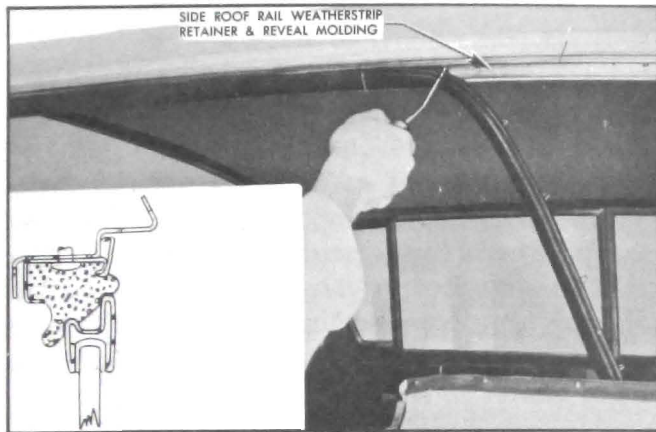

Figure 13-197—Side Roof Rail Weatherstrip
2. Position weatherstrip to retainer at side roof rail so that reinforced section (approximately ten inches long) is over front edge of the rear door window upper frame. Install weatherstrip clips into clip holes with mechanically-retained weatherstrip inserting tool. To install clips into holes, place "V"-shaped tip of tool on loop of clip, then push clip into hole, as shown in figure 13-197, until it snaps into position. **CAUTION:** Do not use excessive force or strike tool when pushing clips into holes as it may distort shape of clips resulting in improper weatherstrip retention.
frame should make an even continuous contact, as indicated in inset of figure 13-197, with the side roof rail weatherstrip. For side roof rail weatherstrip adjustments see "SIDE ROOF RAIL WEATHERSTRIP RETAINER AND REVEAL MOLDING-ADJUSTMENTS."